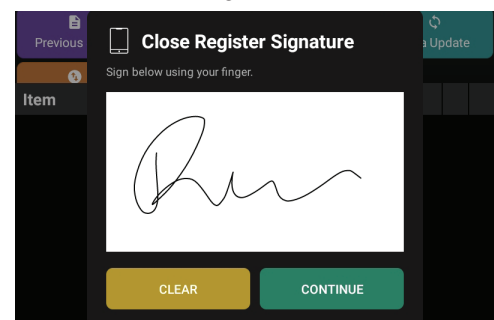

Figure 69
7. Finish closing the drawer with the person counting the drawer signing the signature box when prompted. (Figure 69)